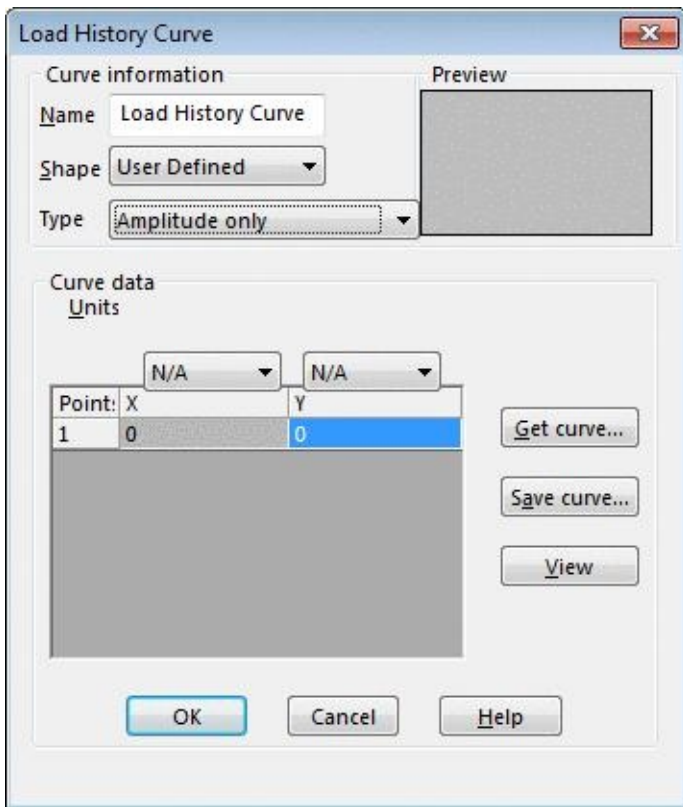

Figure-5. Load History Curve dialog box
- Click on the **Get Curve** button from the **PropertyManager**. The **Load History Curve** dialog box will be displayed; refer to Figure-5.